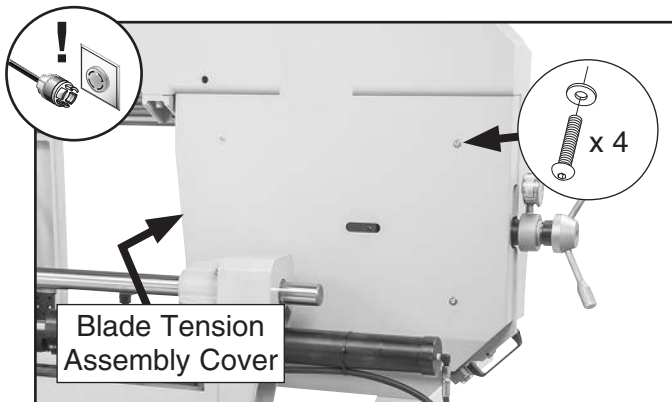

Figure 111. Blade tension assembly cover and securing cap screws.
- Loosen cap screws that secure blade tension assembly cover and move it out of the way (see **Figure 111**).